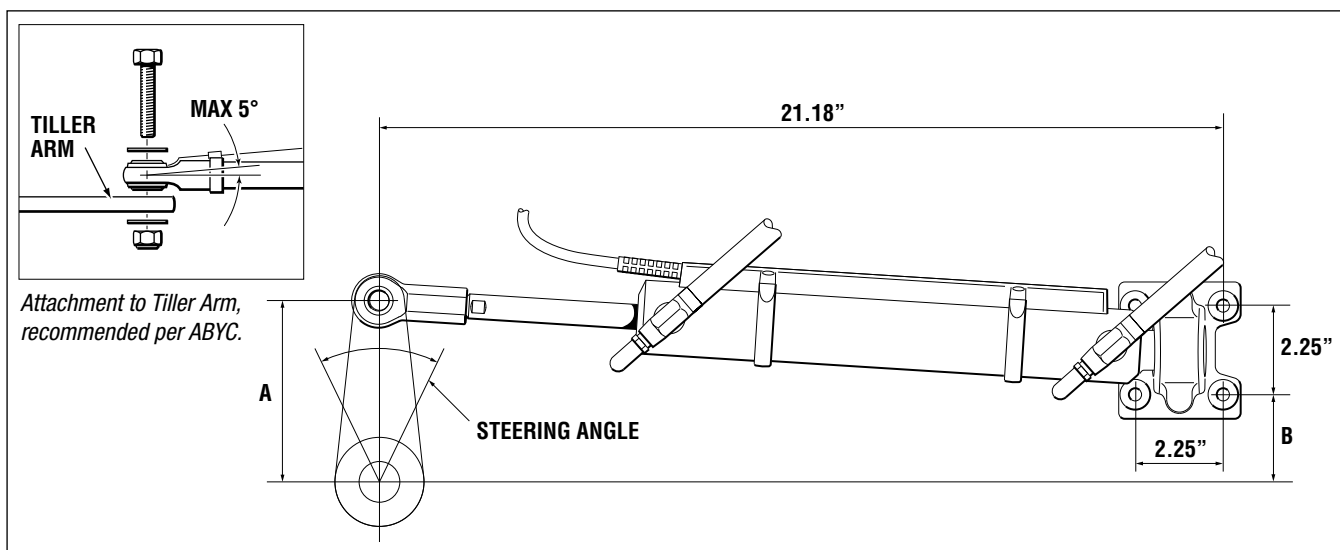

Figure 5-16.
2. Secure rod end to tiller arm using the supplied hardware as shown in figure 5-16. Torque the nut to 43 ft-lb (58.3 Nm).
3. Place mounting foot in location indicated in figure 5-16 and table 5-2 for desired steering angle.